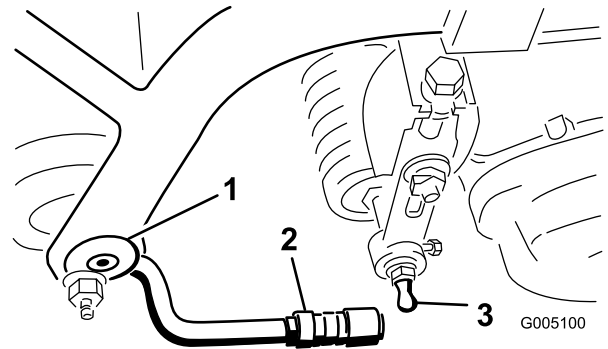

Figure 11
2. Mount a washer and ball stud to each end of the front roller on the cutting units (Figure 11).
4. Slide the sleeve back on the ball joint and rotate the pull arm down so the socket fits over the ball stud. Release the sleeve so it slides over the stud and locks the assemblies together (Figure 11).